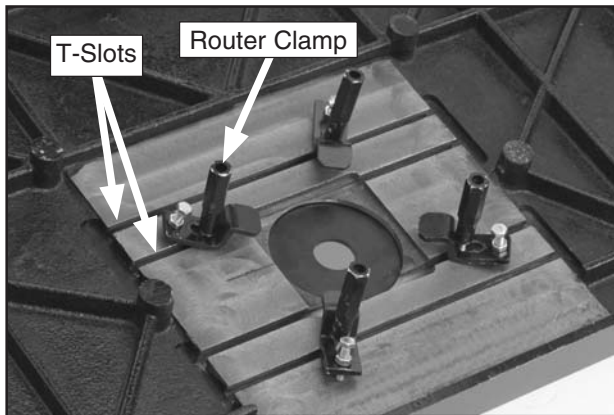

Figure 35. Installing the router clamps
1. Slide the router clamps into the T-slots on the underside of the table (**Figure 35**).